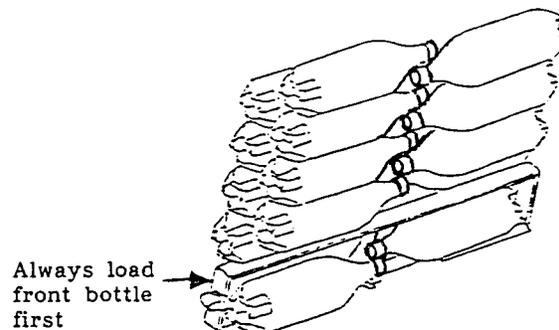

Figure 3
- Important: Always load the front bottle first, then the rear bottle, so the caps overlap with the rear bottle's cap on top as shown in figures 3 or 4.